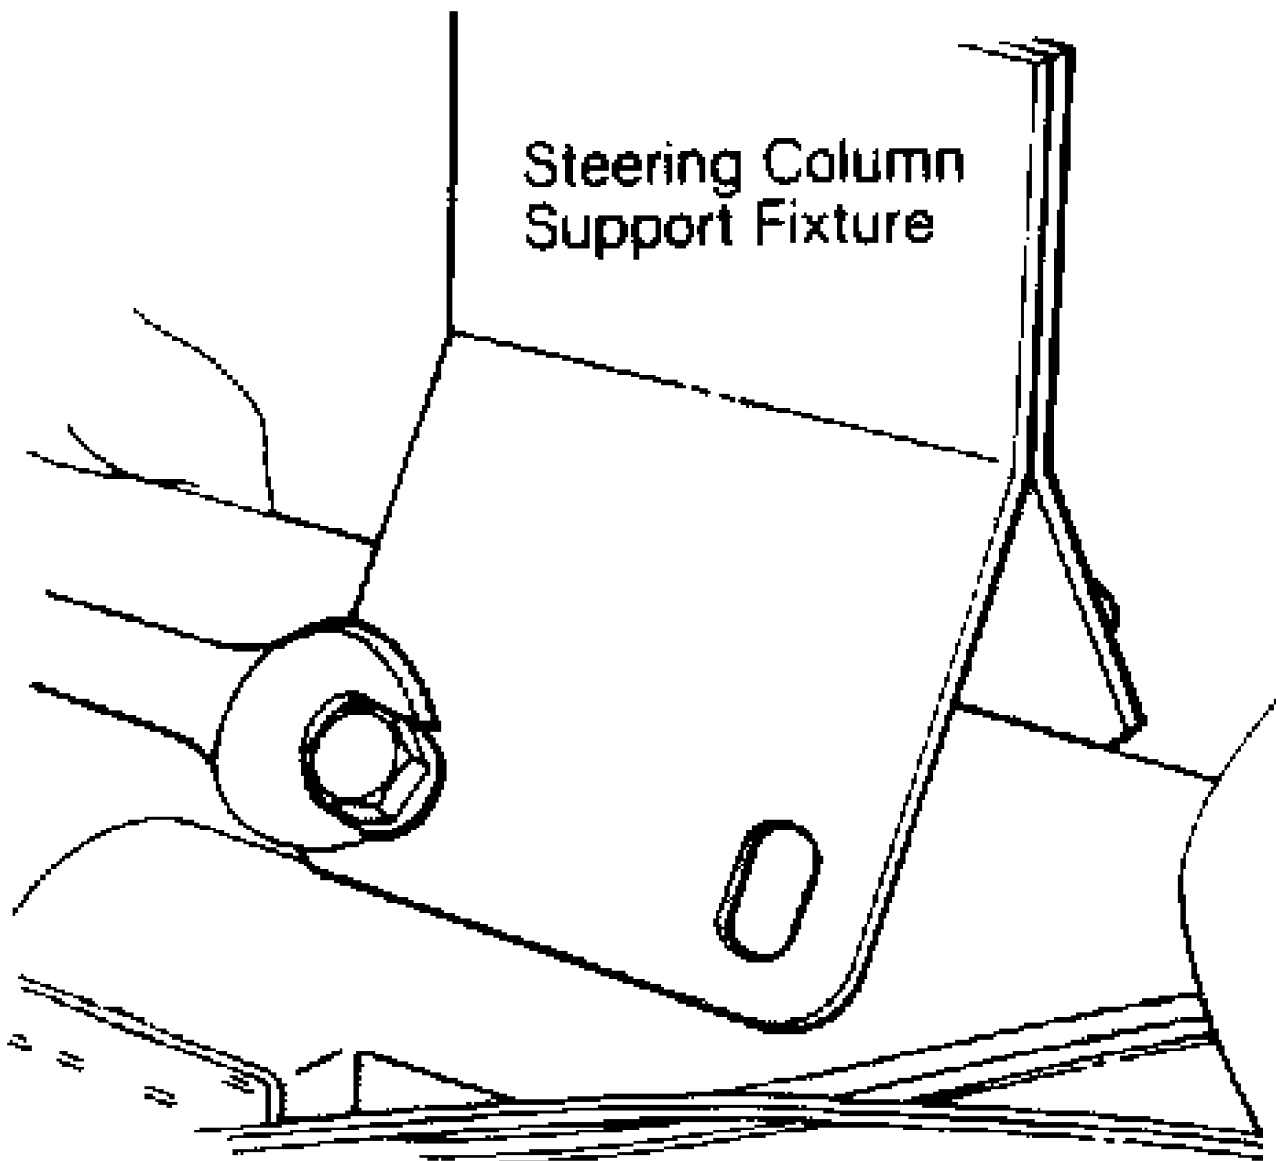

Fig. 3: Attaching Steering Column Support Fixture
1) If column is removed from vehicle, attach a column supporting fixture. See Fig. 3. If the column is in the vehicle, disconnect negative battery cable. Remove the steering wheel. Refer to STEERING WHEEL & HORN PAD R & I under REMOVAL & INSTALLATION. Remove lock plate cover.
1) Remove steering wheel. See STEERING WHEEL & HORN PAD R & I under REMOVAL & INSTALLATION. Remove column (if required). Attach column fixture and clamp assembly in vise. See Fig. 3.